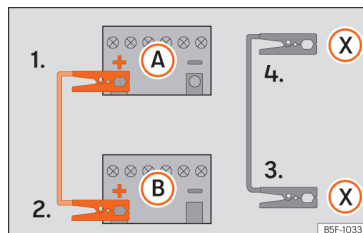

Fig. 55 Diagram of connections for vehicles with Start Stop system
- 4b. *In vehicles with a Start-stop system:* connect one end of the **black** jump lead (X) to a suitable ground terminal, to a solid piece of metal in the engine block, or to the engine block itself » » » Fig. 55.
5. Connect the other end of the **black** jump lead (X) to a solid metal component bolted to the engine block or to the engine block itself of the vehicle with the flat battery. Do not connect it to a point near the battery (A).